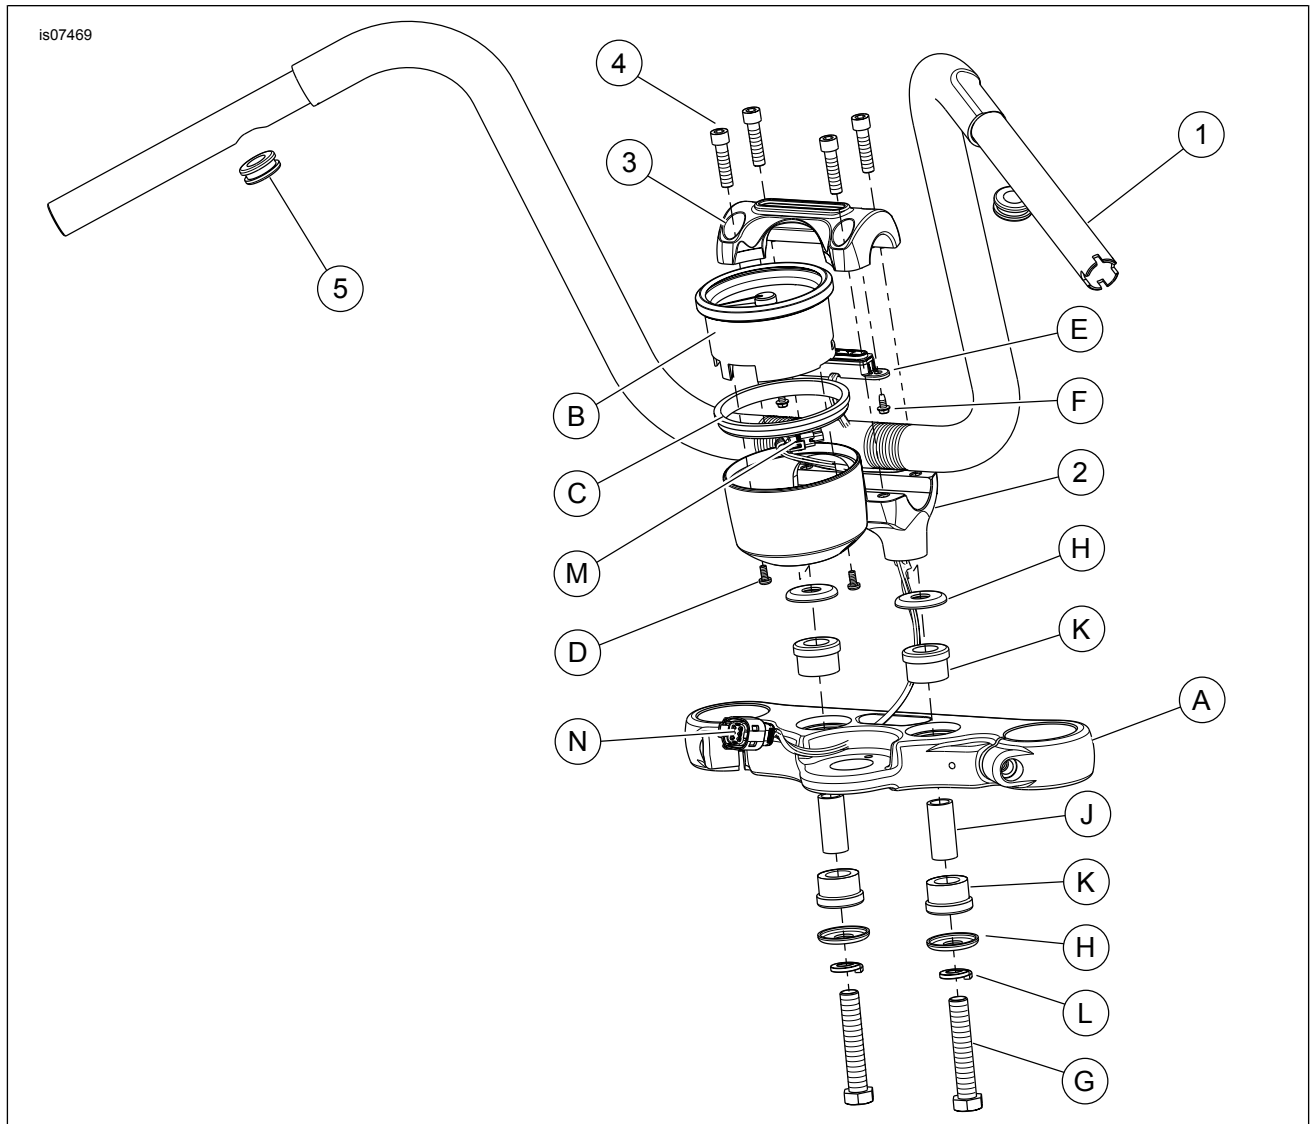

Figure 4. Service Parts, FXSB Fat Mini-Ape Handlebar
7. See Figure 4. Insert the switch-wire grommets (5) into place in the switch-wire openings in the handlebar.
1. See Figure 4. Obtain the riser with speedometer cup (2) from the kit and the indicator lamp assembly with harness removed earlier. Feed the speedometer connector (M) through the wire opening in the speedometer cup.
2. Obtain the gasket (C) and speedometer (B) removed earlier. Place the gasket in place in the riser speedometer cup.
4. With fasteners (D) install the speedometer into the riser. Tighten to 1.36–1.92 N·m (12–17 in-lbs).
1. See Figure 4. Install the **new** handlebar riser assembly using the mounting hardware removed earlier.
- b. Fasten the riser with the mounting bolts (G) removed earlier. Do not fully tighten at this time.
5. See Figure 4. **One at a time**, remove the riser base mounting bolts (G), apply a few drops of Loctite 271 - Red to the 4-6 threads nearest the end, and install.